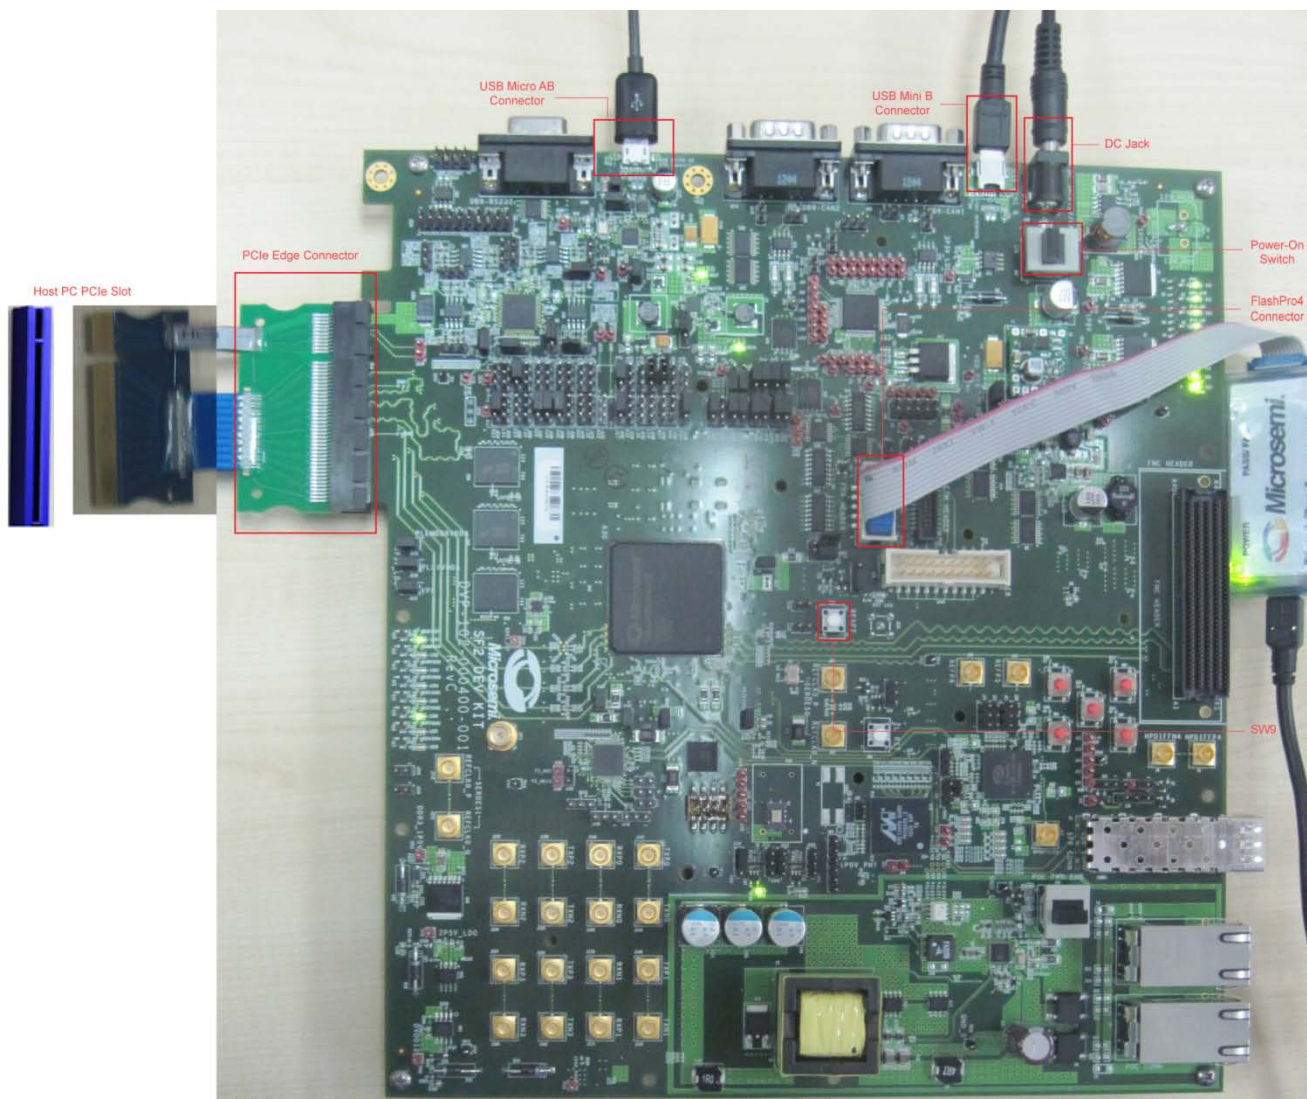

Figure 1. SmartFusion2 Development Kit Setup
4. Connect the power supply to the J18 connector and power on the board using the SW7 switch. The board setup is shown in Figure 1.